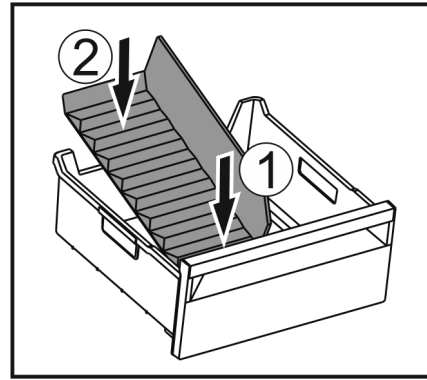

Fig. 115
- ▶ Insert the front part of the ice compartment divider. Fig. 115 (1)
- ▶ Lower the rear part of the ice compartment divider to the drawer bottom. Fig. 115 (2)